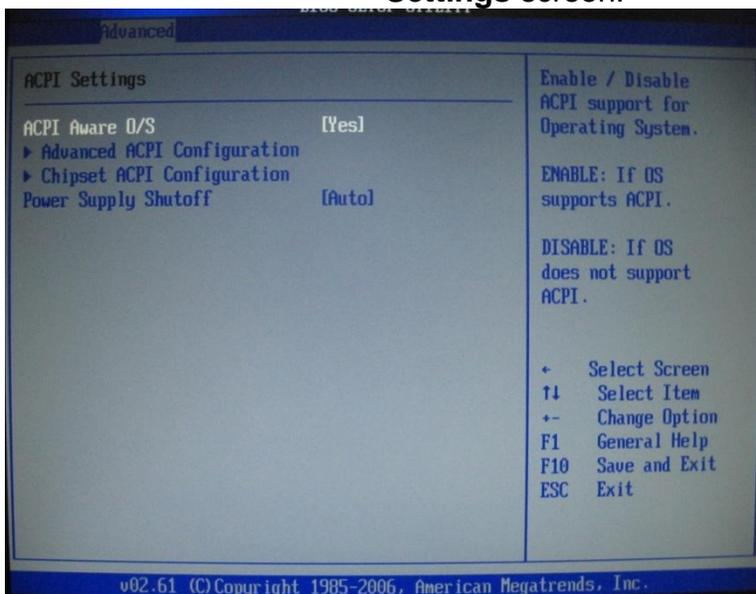

Figure 8-22 Super IO Configuration Page.
12. On the **Super IO Configuration Page**, no changes are necessary. (Figure 8-22). Then press **Escape** to return to **Advanced Settings** screen.